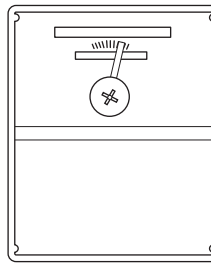
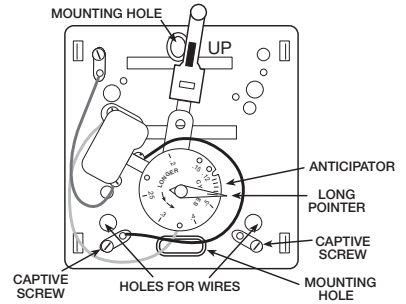

FIGURE 2
FIGURE 3
- Remove Front Cover of new thermostat by inserting a finger in the side of the thermostat and gently prying away each corner. Remove Base, Figure 2, from Sub-Base, Figure 3, by loosening three captive screws.
- Place Sub-Base, Figure 3, on wallplate over wall opening. Mark wall with pencil at mounting holes as shown in Figure 2. Now lay wallplate and Sub-Base to the side.
- Referring to your notes and the following diagrams, attach wires to terminal screws shown in Figure 2. Make sure bare metal wires do not touch each other. Push all excess wire back into wall.
- Place Base, Figure 3, over Sub-Base and attach by tightening three captive screws.
- Find anticipator setting on old thermostat. Setting on new thermostat should be the same. Do this by carefully sliding the long pointer, Figure 2, over desired number printed on the anticipator. If old anticipator setting cannot be determined, look on gas control on furnace, or set at .6. During heating season, furnace should operate about five times an hour. If adjustments are necessary, move heat anticipator pointer slightly and recheck. **NOTE: Set pointer to 1.2 for millivolt systems.**